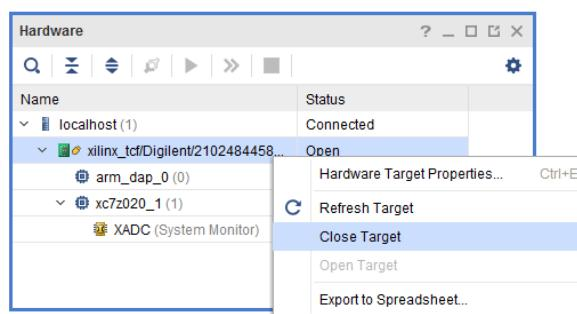

Figure 10.51: Close Target option
Note: If one or more of the devices is unknown to Vivado tool, you can provide the instruction register (IR) length directly in the **Hardware Devices** table of the Open Hardware Target wizard, see Figure 10.51.
If you want to close a hardware target, right-click on the hardware target in the **Hardware** window and select **Close Target** option from the popup menu, see Figure 10.51.